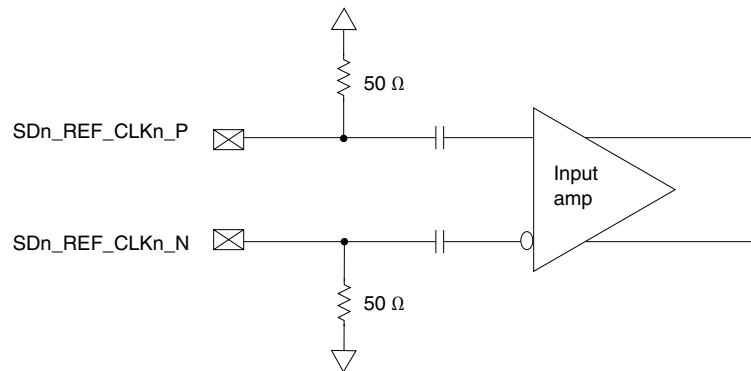

Figure 38. Receiver of SerDes reference clocks
- The $SDn_REF_CLKn_P$ and $SDn_REF_CLKn_N$ are internally AC-coupled differential inputs as shown in Figure 38 on page 126. Each differential clock input ($SDn_REF_CLKn_P$ or $SDn_REF_CLKn_N$) has on-chip 50- Ω termination to $SGNDn$ followed by on-chip AC-coupling.